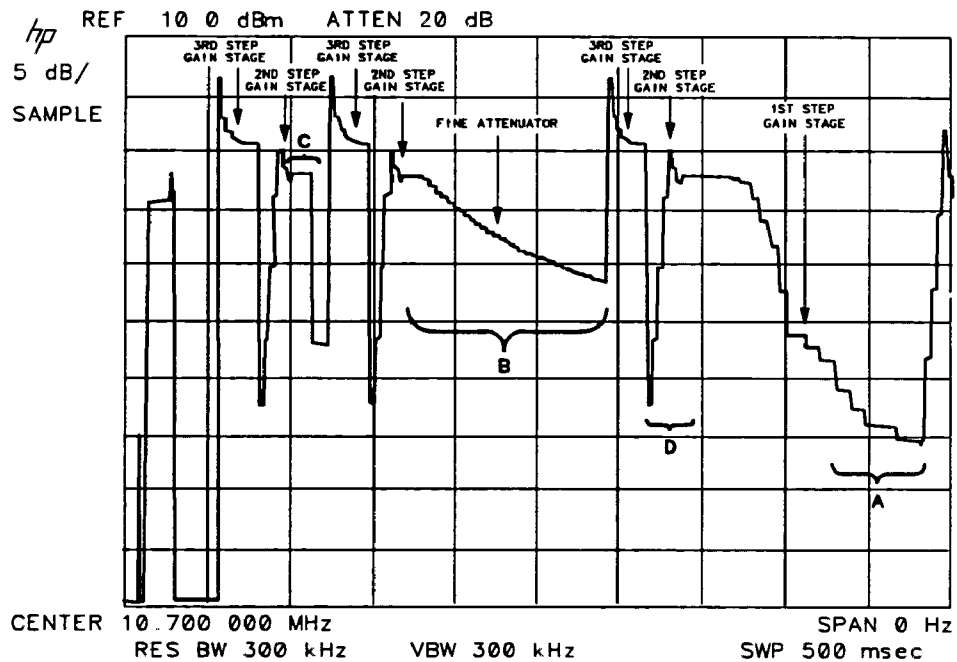
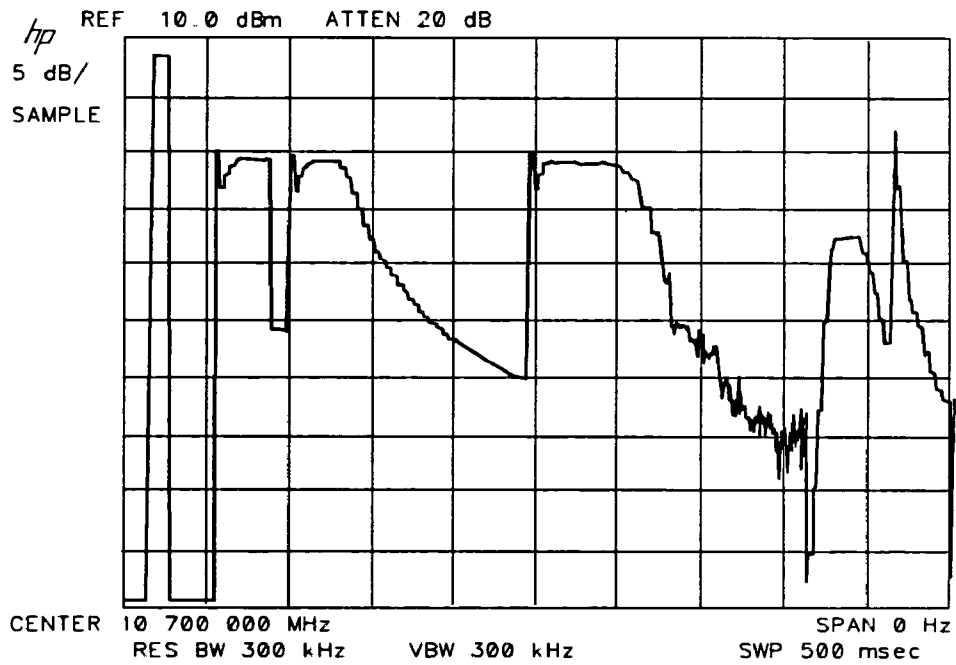
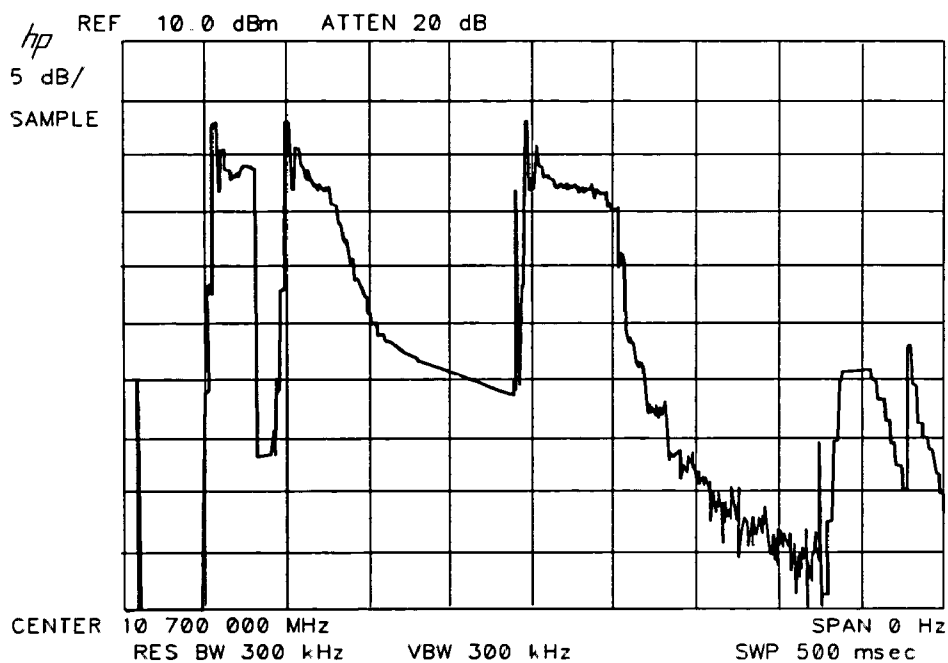

Figure 9-4. Detailed IF Adjust Signature (1)
Figure 9-11. Region B Amplitude Variation
Figure 9-12. Region B Amplitude Offset
- b. Simultaneously press **SINGLE** on the HP 8566A/B and **ADJ CURR IF STATE** on the HP 8562A/B. Figures 9-4 through 9-8 illustrate detailed IF signatures of a properly-operating HP 8562A/B.
- **Region A of Figure 9-4 is Noisy:** Suspect the First LC pole.
- **Region B of Figure 9-4 is Flat:** Suspect the Third Step Gain Stage, the Fine Attenuator, or the Fourth LC Pole output amplifier.
- **Region C of Figure 9-4 has no 15 dB Step:** Suspect the Reference 15-dB Attenuator.
- **Region D of Figure 9-4 is Flat:** Suspect the Second Step Gain Stage.
- **Amplitude Region B of Figure 9-4 Varies More Than 12 dB:** Suspect the Third Step Gain Stage output amplifier. See figure 9-11.
- **Region B of Figure 9-4 is Kinked:** Suspect the Fourth LC pole output amplifier. See figure 9-12.